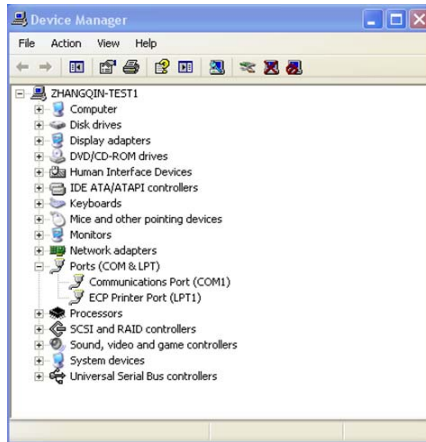

Fig. 9-7 View the port number
Step 3 After connection, you need to check the port number through the device manager of the host. As shown in Fig. 9-7, the port number is COM1.